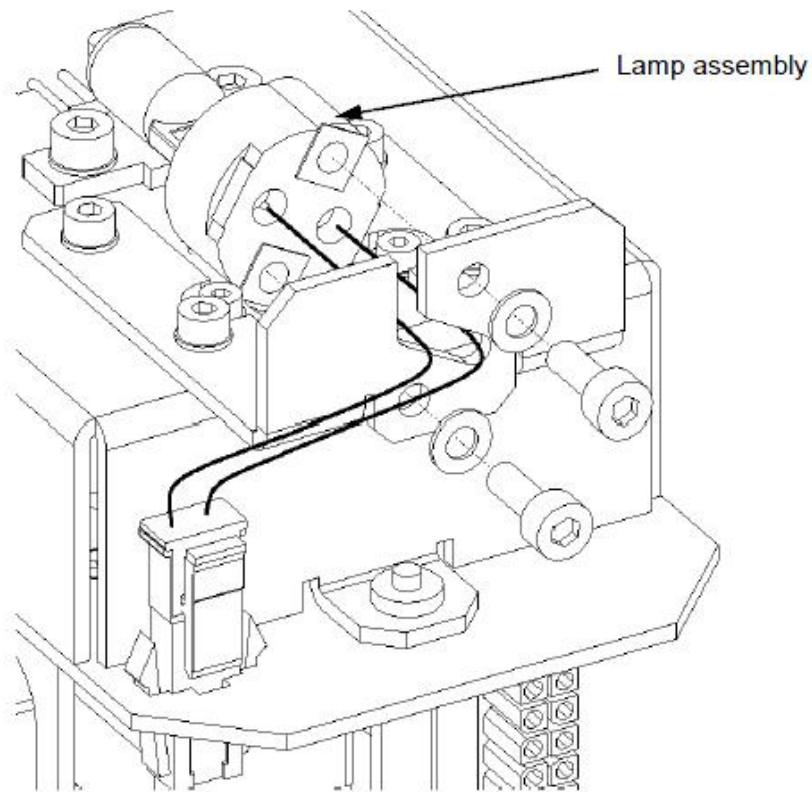

Figure N-4: Removing the Lamp Assembly
2. Remove the Reader Lamp Assembly from Lamp Bracket by unscrewing the two M3x8 Socket Cap Head Screws and two M3 Washers (Figure N-4).